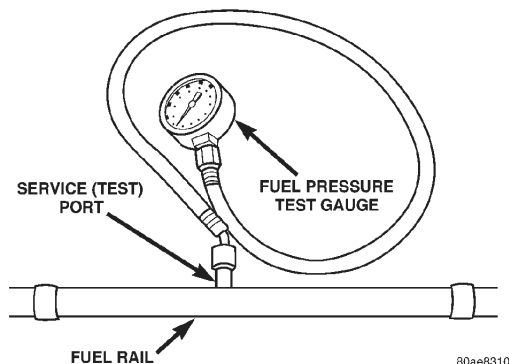

Fig. 7 Fuel Pressure Test Gauge (Typical Gauge Installation at Test Port)
(1) Remove protective cap at fuel rail test port. Connect the 0–414 kPa (0–60 psi) fuel pressure gauge (from gauge set 5069) to test port pressure fitting on fuel rail (Fig. 7).
(2) Start and warm engine and note pressure gauge reading. Fuel pressure should be 339 kPa 34 kPa (49.2 psi 5 psi) at idle.
(3) If engine runs, but pressure is below 44.2 psi, check for a kinked fuel supply line somewhere between fuel rail and fuel pump module. If line is not kinked, but specifications for either the Fuel Pump Capacity, Fuel Pump Amperage or Fuel Pressure Leak Down Tests were not met, replace fuel pump